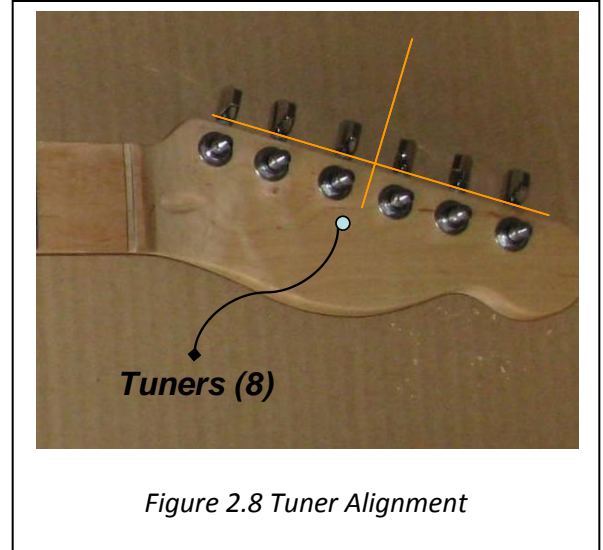

Figure 2.8 Tuner Alignment
1. Insert tuners, 6 each (item #8 on Material List) into the Neck Headstock (Figure 2.8). Ensure that the Tuner shafts are perpendicular to the Headstock (Fig.2.8).